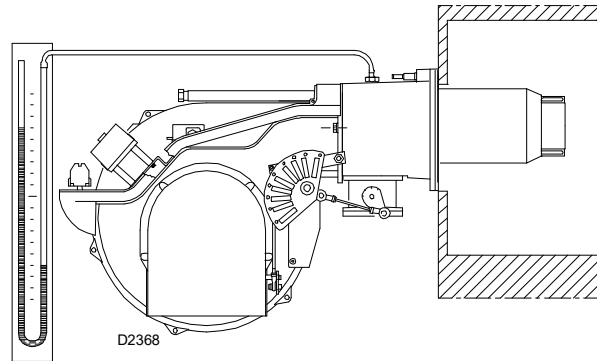

Fig. 36
- Fit a U-type manometer (Fig. 36) to the gas pressure test point on the sleeve.